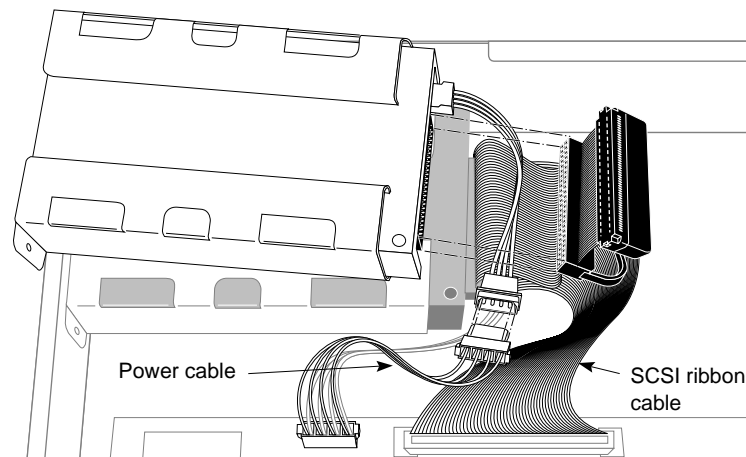

Figure 9-21 Disconnecting the Power and SCSI Cables From the Floptical Drive
- Disconnect the power cable connector from the drive, as shown in Figure 9-21.